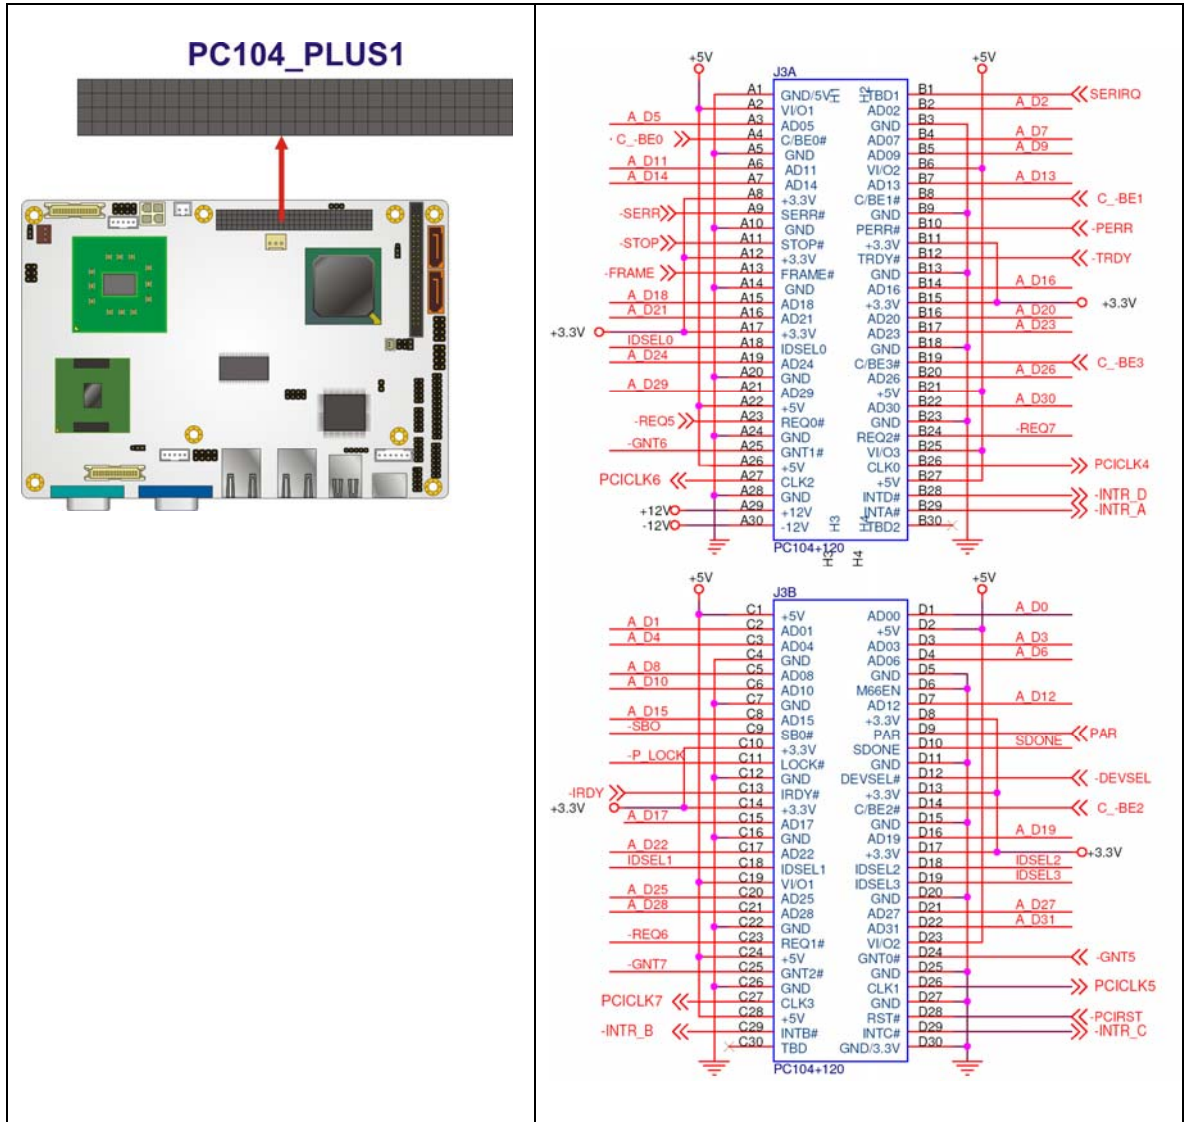

Figure 3-18: PCI-104 Slot Location
- CN Location:** See **Figure 3-18**